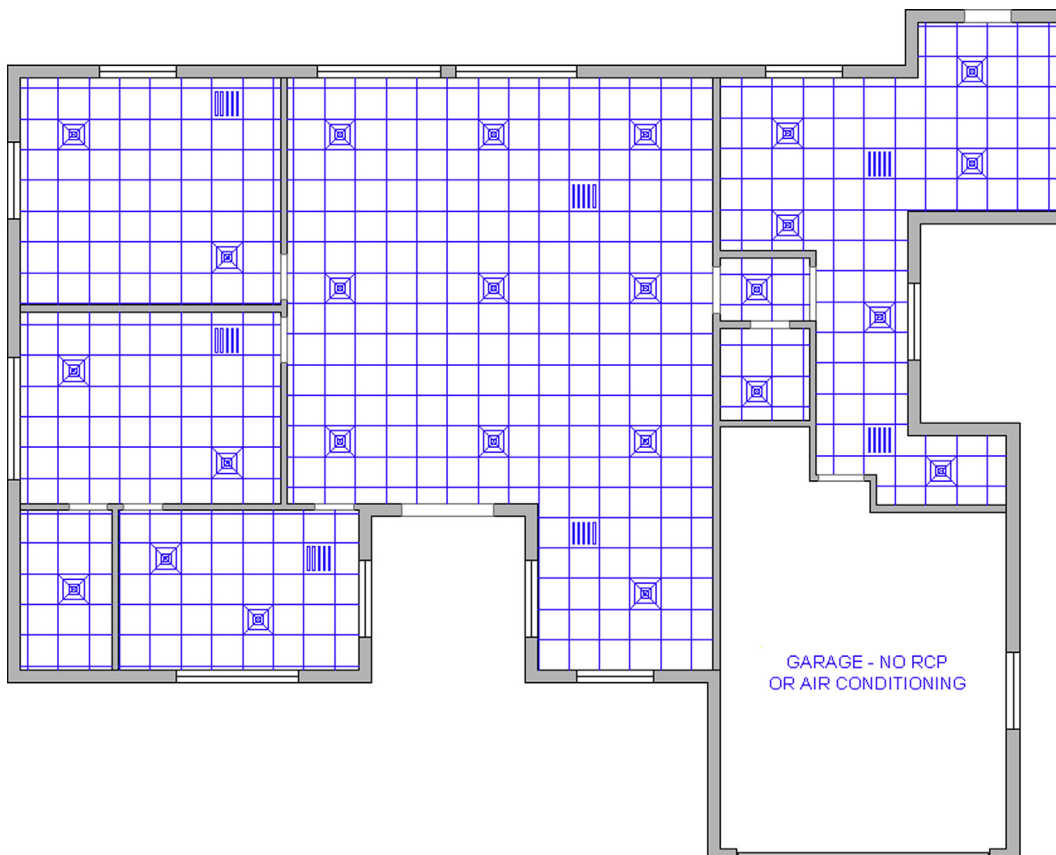

FIGURE 16.16
Step 4. Add in the diffuser and return air duct symbols as shown in the plan (Figure 16.16).